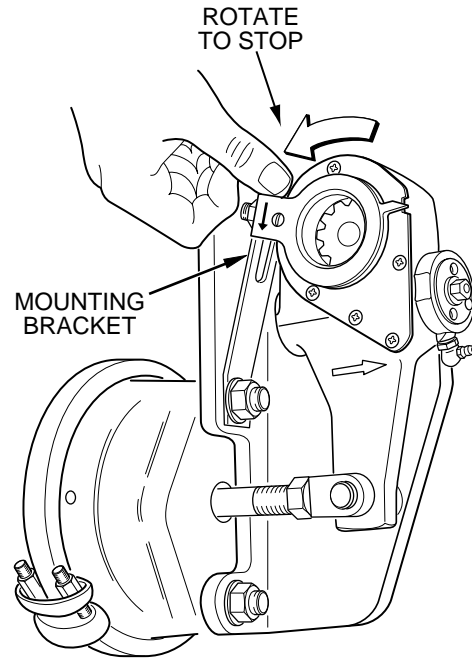

Figure 16 Position Brake Adjuster
6. Rotate the control arm counterclockwise away from adjustment hex towards the air chamber until it comes to a definite internal stop. (See Figure 16.) If necessary, use a plastic mallet to tap the control arm into position.